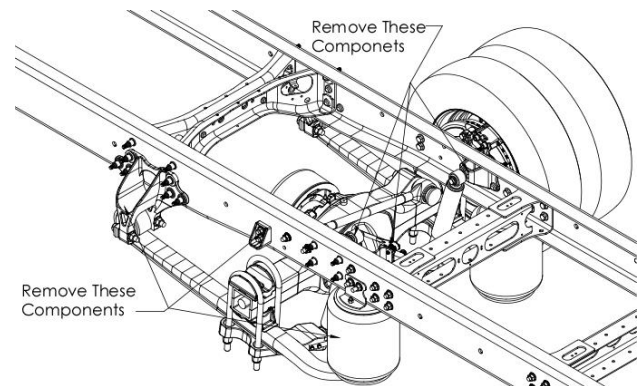

Figure 5: OEM Components to remove, Air Ride Vehicles
6. Remove the OEM shock absorbers and frame mounted shock brackets. See Figure 5.